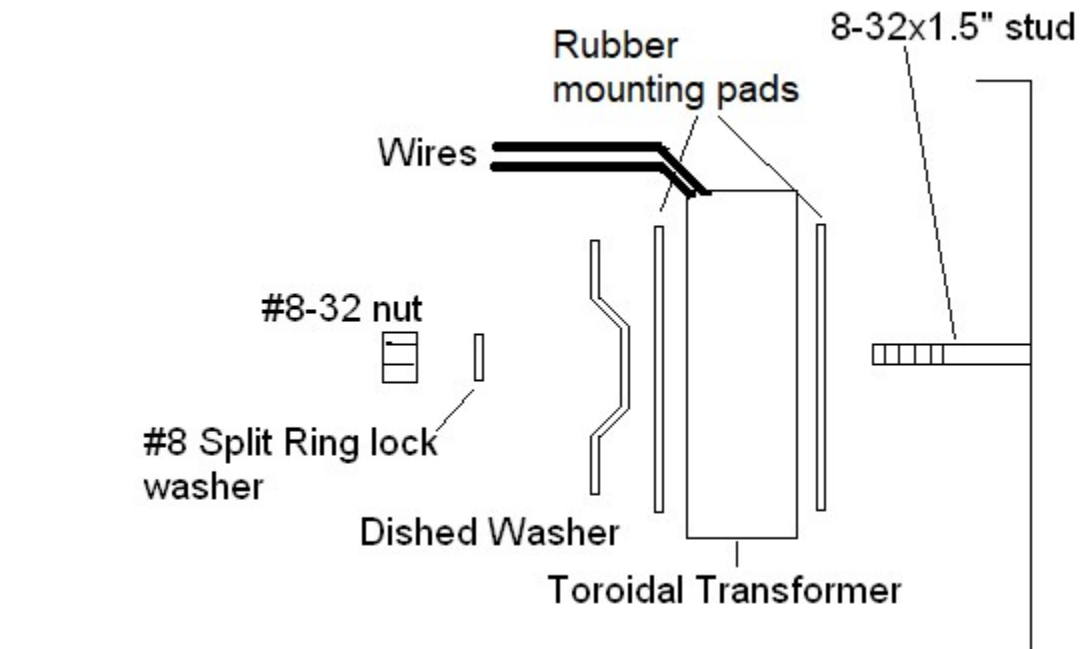

Figure 19-Fasten the transformer to the preamp right side wall
5. Fasten the transformer to the right side wall of the preamp in the manner shown in Figure 19. This operation may be easier if you turn the chassis on its side so that gravity helps you. Prevent scratches on the side of the chassis by setting it on a towel.